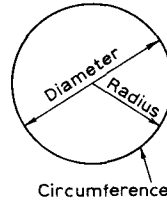

Fig. 1.35
**Mensuration of the circle.** The names of the main parts of a circle are shown in Fig. 1.35. The ratio